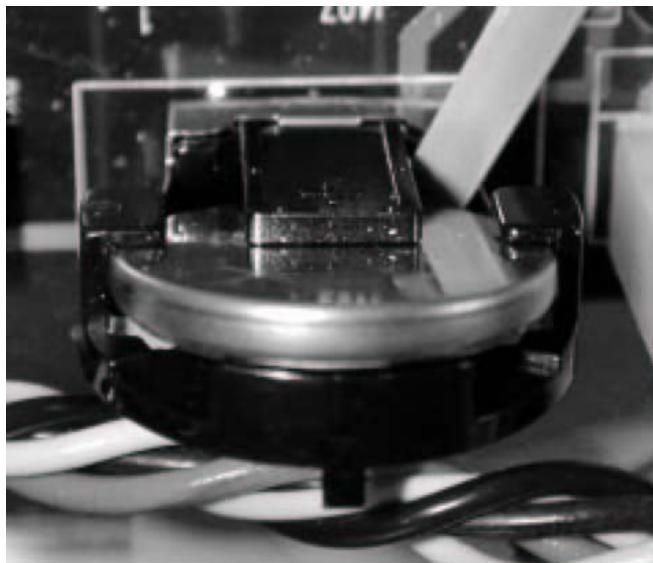

Figure A-2 Removing battery
2. Insert your fingernail, the plastic knife, or the pen cap behind and under the battery, and lift the battery out, as shown in Figure A-2.